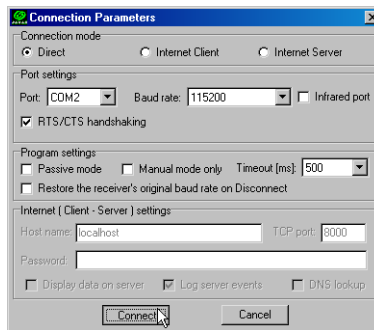

Figure 4-2. Connection Parameters – RTS/CTS Handshaking
2. On the Connection Parameters dialog box, enable RTS/CTS handshaking (Figure 4-2).
2. On the Connection Parameters dialog box, enable RTS/CTS handshaking (See Figure 4-2 on page 4-8.)